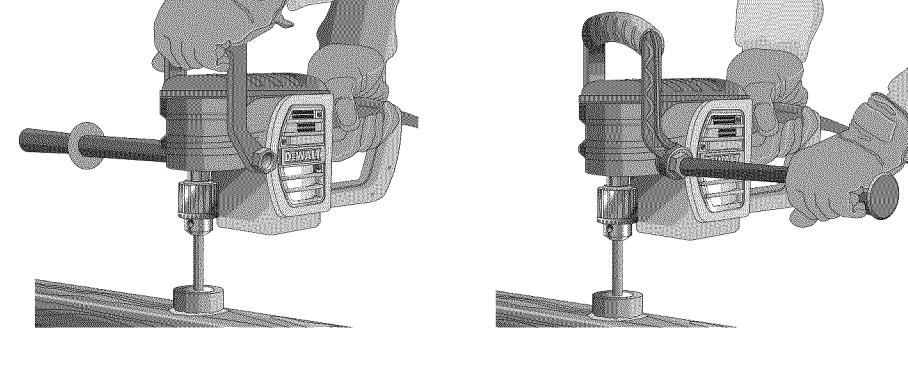

FIG. 3
A bail handle is provided for carrying the tool and for use as an additional handle. Assemble the bail handle in one of the positions shown in Figure 3. When changing the location of the bail handle from one position to the other, completely remove the two bail handle bolts (E) securing it. Flip the handle over and reinstall.